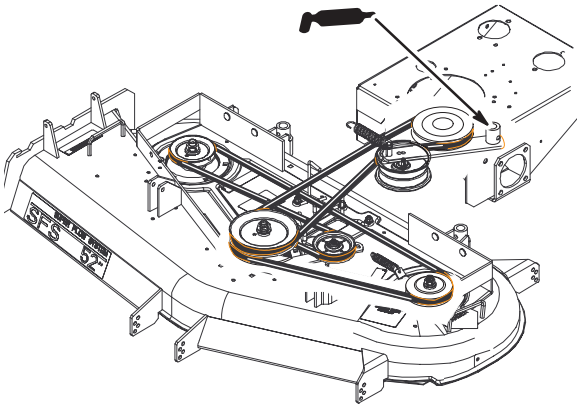

Figure 34
2. Grease the idler pulley pivot for the deck (Fig. 34).